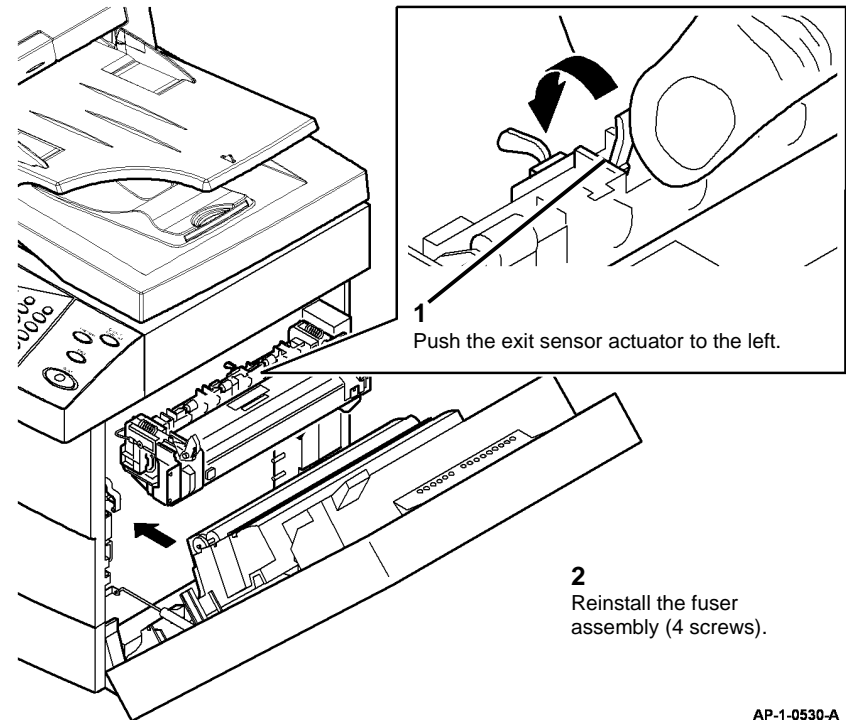

Figure 2 Replacing the Fuser Assembly
Do not damage the exit sensor actuator when reinstalling the fuser assembly. Refer to Figure 2.
2. Ensure the exit sensor actuator is pushed to the left when the fuser assembly is reinstalled, Figure 2.